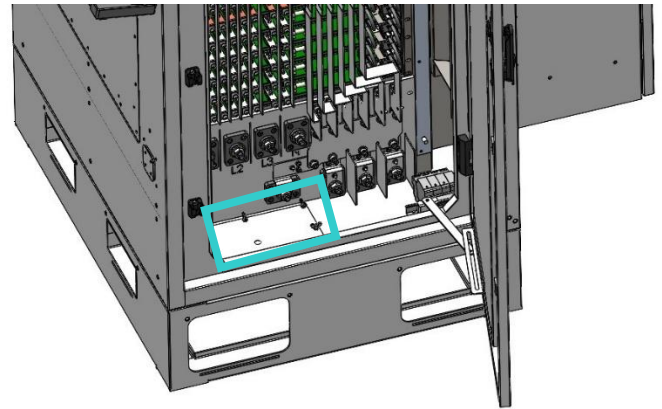

Figure 10 – Charger's right-side door opened shows removable metal plate on charger floor
5. Open charger's right-side door and then locate the removable plate secured with wingnuts and washers to the floor of the charger (Figure 10).